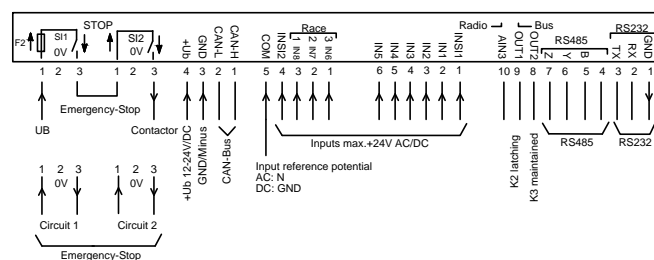

Figure 7: Connections at the RES receiver
- DE7.4.13 The status of the switch (K2) and the button (K3) at the sender is contained in the PDO 2000 (bit 1 and 2) as well as on the digital outputs, see Figure 7. The E-Stop is signalized by PDO 2000 bit 0 and PDO 2003 bit 7. PDO 2006 contains the radio quality (0 % to 100 %) whereas PDO 2007 summarizes several radio states, i.e. the pre-alarm radio communication interruption (bit 6, 200 ms in advance to shutdown).